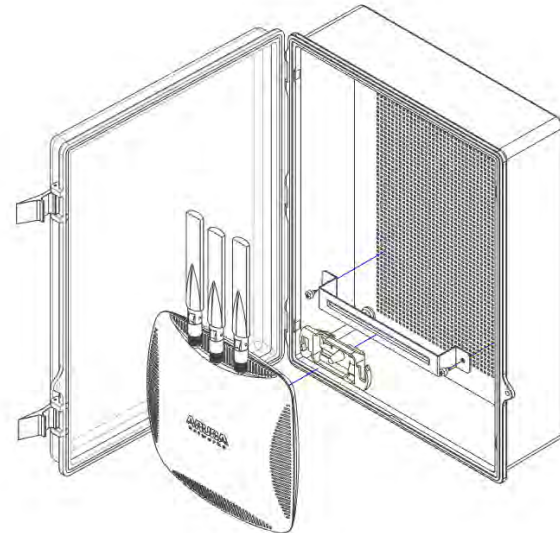

Figure 2
Step 2b – If required, the assembly includes a T-Bar Bracket that fastens to the internal panel so any Access Point can be mounted (Figure 2). A spacer kit is included to raise the height of the T-Bar if extra space is required.